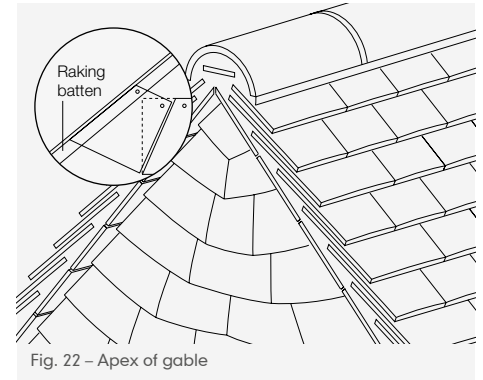

Fig. 22 – Apex of gable
- 4 At apex of gable, use a tile-and-a-half tile turned through 45° and cut to shape to finish (Fig. 22).